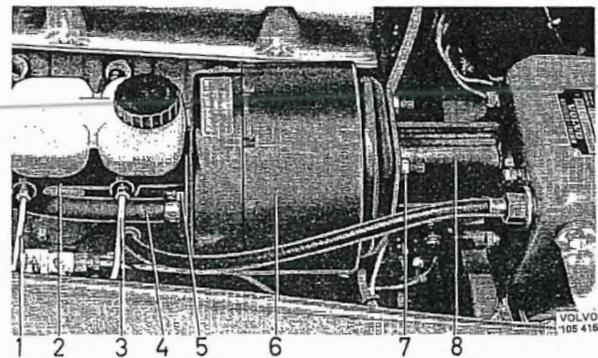

Fig. 5-54. Brake parts
2. Connect up the lines, see Fig. 5-54. Depress the pedal and tighten the nuts for the lines when fluid free from air bubbles forces its way out.